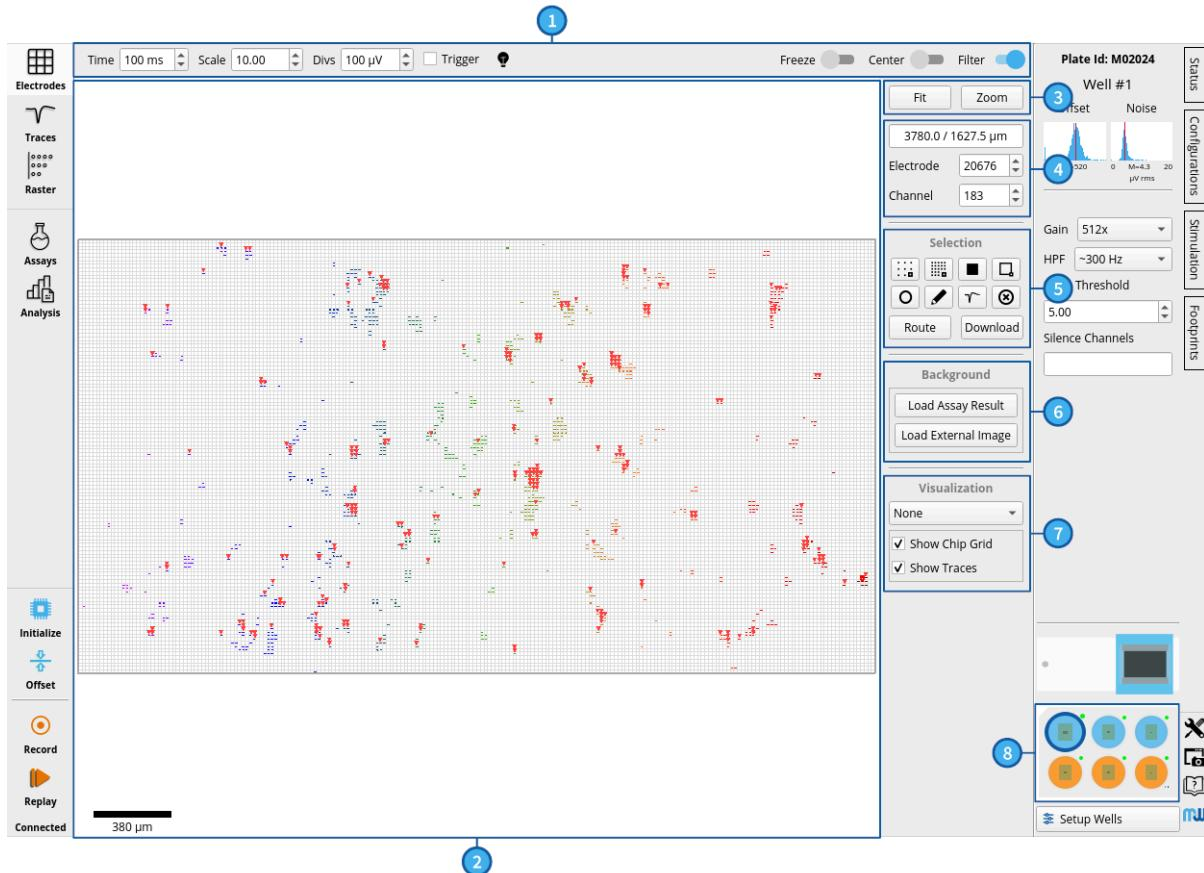
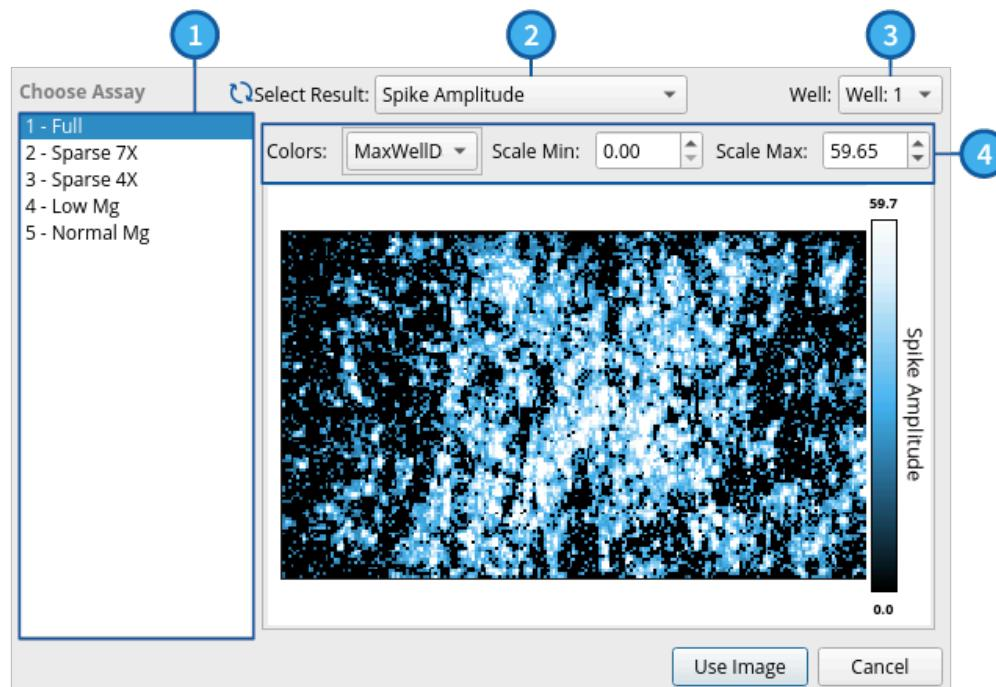
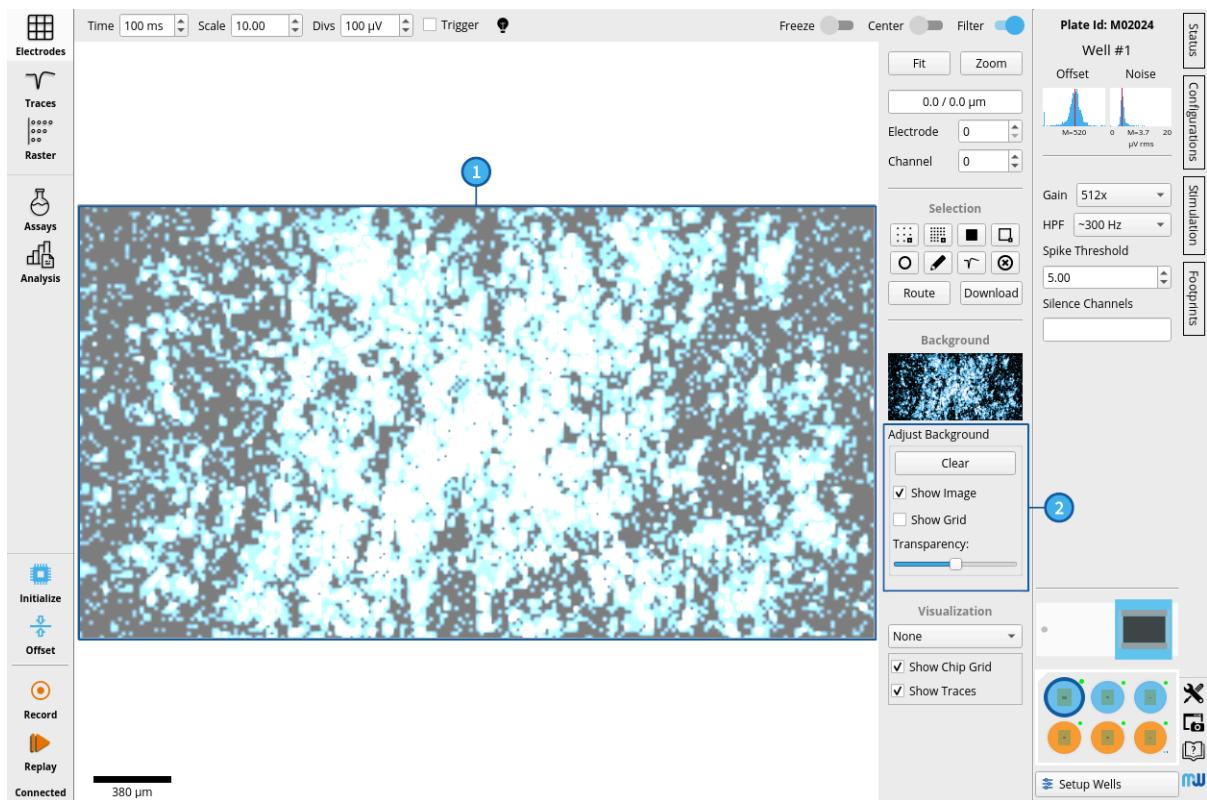
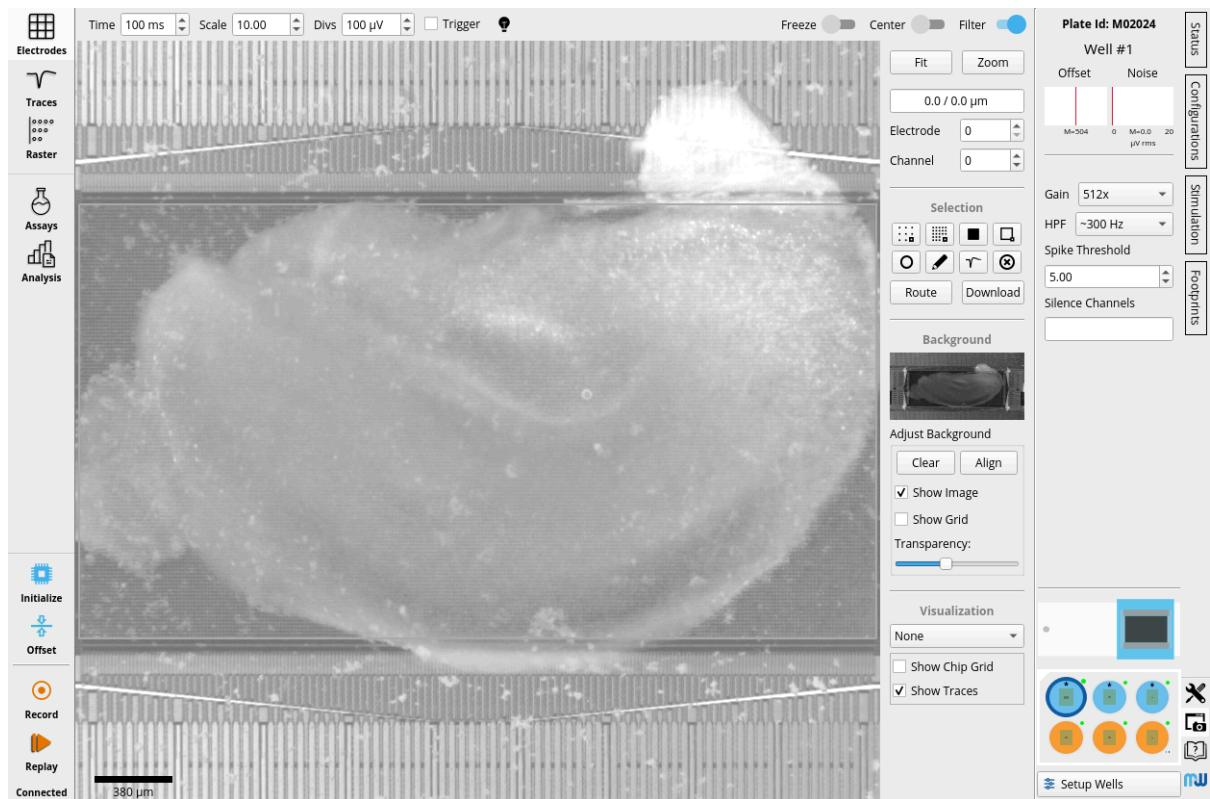

Figure 3.1. Overview of the Electrodes View
Figure 3.2. Background Assay Result Widget
Figure 3.3. Spike Amplitude Map in the Electrodes View
Figure 3.4. Aligned Brain Slice Background Image
In the following, the individual elements of the Electrodes View, as displayed in Figure 3.1, are described:
The signal traces of the electrodes selected for recording are displayed inside the corresponding squares (colored signals in Figure 3.1). Note that the colors of the traces in the Electrode View match the colors in the Raster View (see Section 4 of this chapter).
Clicking on the **Load Assay Result** button (Figure 3.1 (6)) will open the Background Assay Result Widget, which is shown in Figure 3.2. In the left panel of the widget (1), which provides a list of all assays
Figure 3.3 (1) shows the Electrodes View after loading the Spike Amplitude map from Figure 3.2. New buttons and controls now appear in the Background Visualization tool (Figure 3.3 (2)):
Background is shown in a semi-transparent way which facilitates the visualization of the displayed signals on top of the background image (Figure 3.3 (1)).
The second button of the Background Visualization tool, **Load External Image** (Figure 3.1 (6)), offers the possibility to load any image and to align it to the electrode array using the MaxLab Live software. After selecting a .png, .xpm or .jpg file for background display, the user can click on the **Align** button, which will open a dialog box that explains the alignment process. The user needs to click on the four corner electrodes, starting with the top left one, and proceed clockwise. After clicking on the four corner electrodes, the software computes an affine transformation matrix which is applied to the image. A picture of a brain slice, which was aligned using this functionality, is shown in Figure 3.4. Once the alignment is finished, a new file with the aligned image and the file ending ".align" is saved to disk. This image file can then be directly loaded without the need to repeat the alignment process in the future.
This module allows to render a color-coded real-time representation of selected activity features (Figure 3.1 (7)). From the drop-down list, the following options can be chosen: